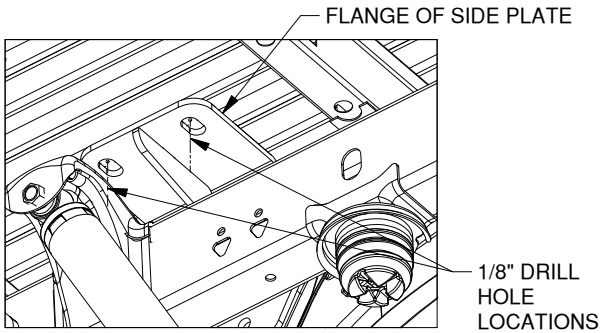

Figure C6: View under bed looking up at drilled area & side plate.
3. **Enlarge the holes.** Check that the 1/8" holes are centered within the slots in the side plate, see Figure C6. If the 1/8" drilled holes are not centered, re-drill the 1/8" holes until the side plates and the drilled holes are aligned. Using the 1/8" holes as pilots, drill out each hole with a 9/16" bit.